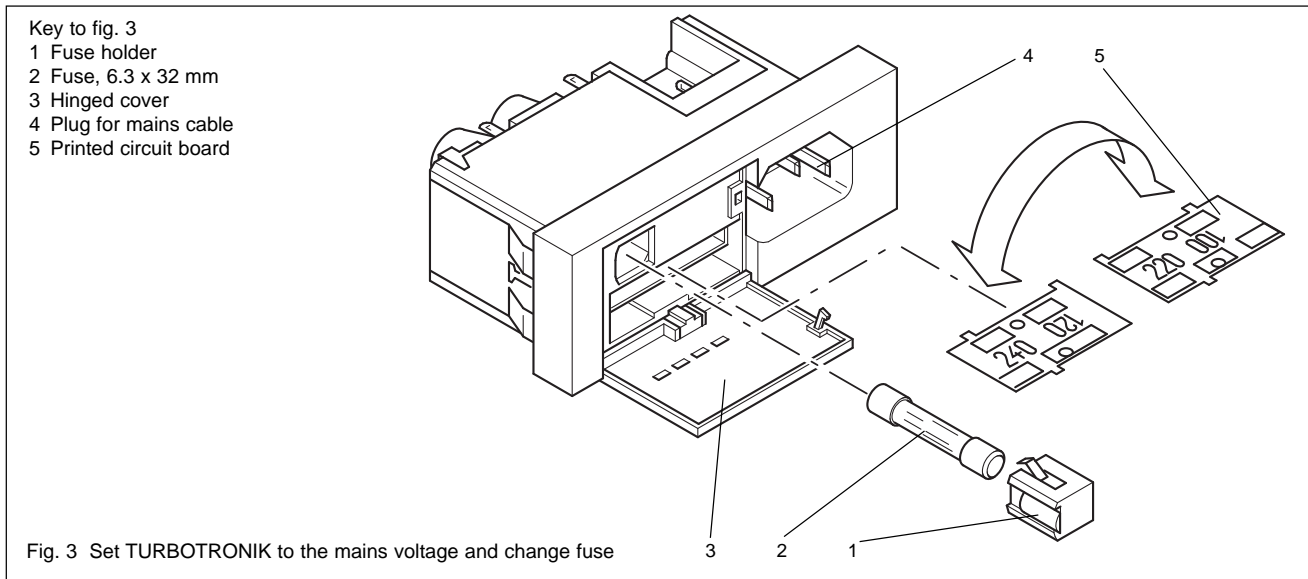

Fig. 3 Set TURBOTRONIK to the mains voltage and change fuse
- 3 Mains voltage settings and fuse; see fig. 3